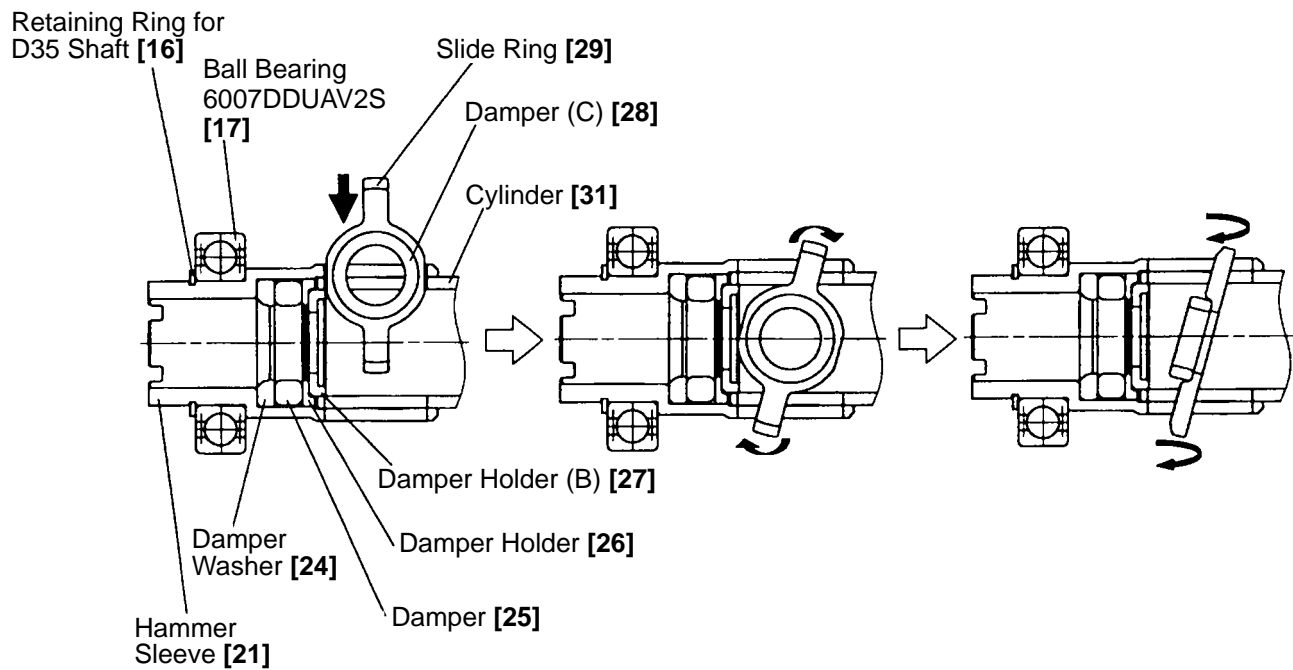

Fig. 18
(3) Reassembly of the cylinder and the hammer sleeve
Press-fit the Hammer Sleeve [21] into the Ball Bearing 6007DDUAV2S [17] and secure it with the Retaining Ring for D35 Shaft [16]. Mount the Damper Washer [24], Damper [25], Damper Holder [26] and Damper Holder (B) [27] to the Hammer Sleeve [21]. Mount the Damper Washer [24] aligning the radius of the inside diameter with the radius of the Second Hammer [23]. Mount the Damper Holder [26] so that its flat surface faces the Damper [25] side. Mount Damper Holder (B) [27] so that its flat surface faces the Damper Holder [26] side. Insert the Cylinder [31] into the Hammer Sleeve [21]. Secure the Cylinder [31] and the Hammer Sleeve [21] with the four Needle Pins D6 x 6 [30]. Insert the assembly of the Slide Ring [29] and Damper (C) [28] into the slot of the Hammer Sleeve [21] and the Cylinder [31]. Tilt the assembly of the Slide Ring [29] and Damper (C) [28] slightly with respect to the shaft of the Cylinder [31] and turn it 90° on the protrusion of the Slide Ring [29]. At this time, apply special grease (for hammer and hammer drill) to the Slide Ring [29] and Damper (C) [28] before assembling (Fig. 18).